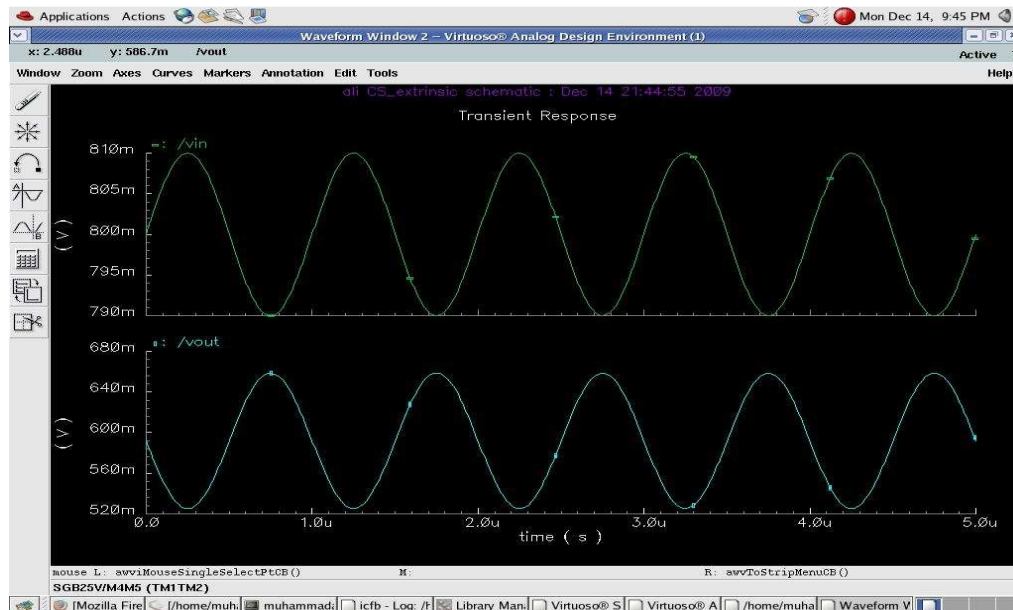

Fig.15: Time domain waveforms
- In the waveform window, go to 'Axes' and click on 'To Strip'. Both the 'vin' and 'vout' will appear on separate graphs as you can see in the Fig.15.